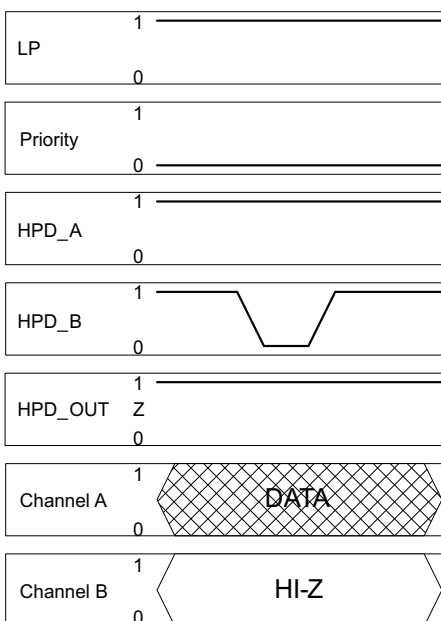

**Figure 41.**
- Case two: In this case both HPD inputs are initially HIGH and the selected port has been determined by the state of the priority pin. The HPD output logic state follows the state of the selected HPD input. If the HPD input pulses LOW, the HPD output to the source also pulses LOW for the same duration of time, again with a slight delay (see Figure 41). If the duration of the LOW pulse exceeds  $t_{T2(HPD)}$ , the device assumes that an unplug event has occurred and the other port is selected (see Figure 42). The case in